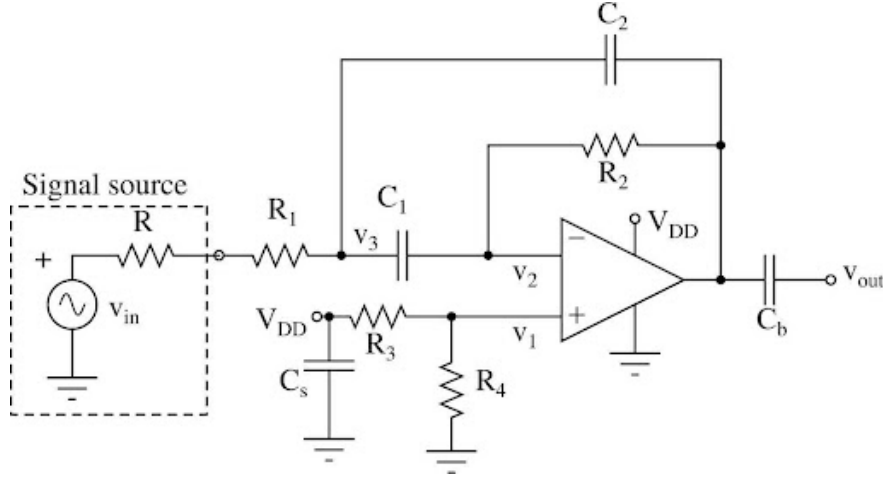

Figure 2: Active band-pass filter circuit design.
- Design an active band-pass filter with a center frequency f_0 and a bandwidth BW . You may use the circuit shown in the Figure 2, which is suitable for low frequencies with narrow bandwidths. The OPAMP in this circuit uses a single supply voltage. To ensure the input and output voltages remain within 0 to V_{DD} , the positive input is biased at $V_{DD}/2$ by choosing $R_3 = R_4$ (with values greater than 1 k Ω). The output and the negative input pins are kept at the same DC level by resistor R_2 (all centered at $V_{DD}/2$). A supply bypass capacitor C_s and a DC block capacitor C_b are also included. With $C_1 = C_2$ and $R'_1 = R_1 + R$, the center frequency and Q factor are given by